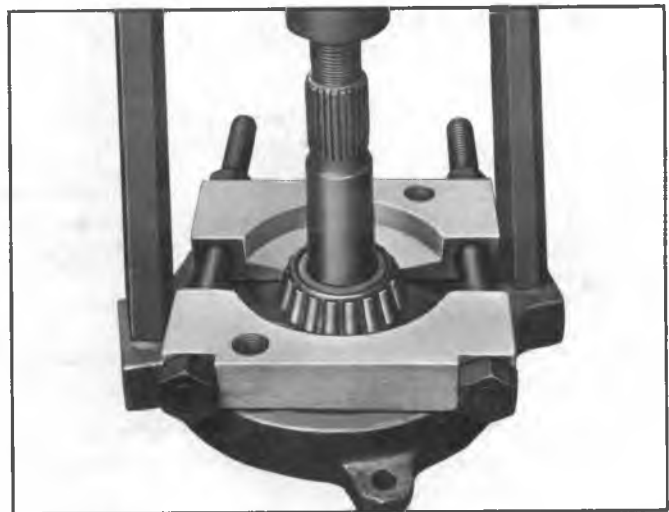

Fig. 5D--Removing Inner Pinion Bearing Cone and Roller
6. Remove inner pinion cone and roller using Tool J-22912, installed as shown in Figure 5D, and press pinion from bearing.